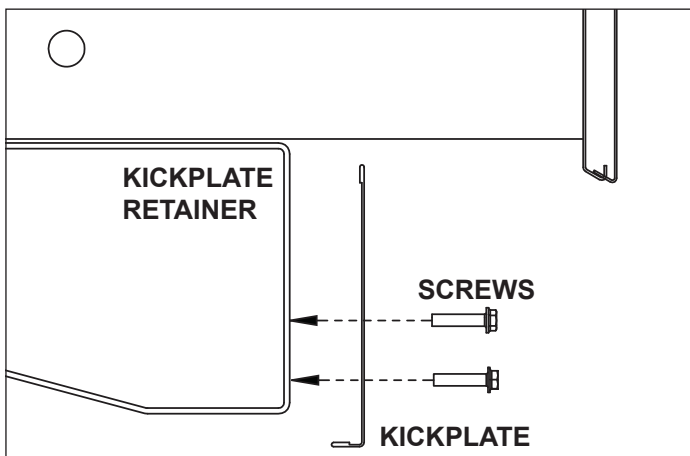

Fig. 8 Attach kickplate with supplied screws
7. Install the front kickplate (Fig. 8) to the kickplate retainer as shown. Install the end kickplates with screws provided and insert the plug buttons.